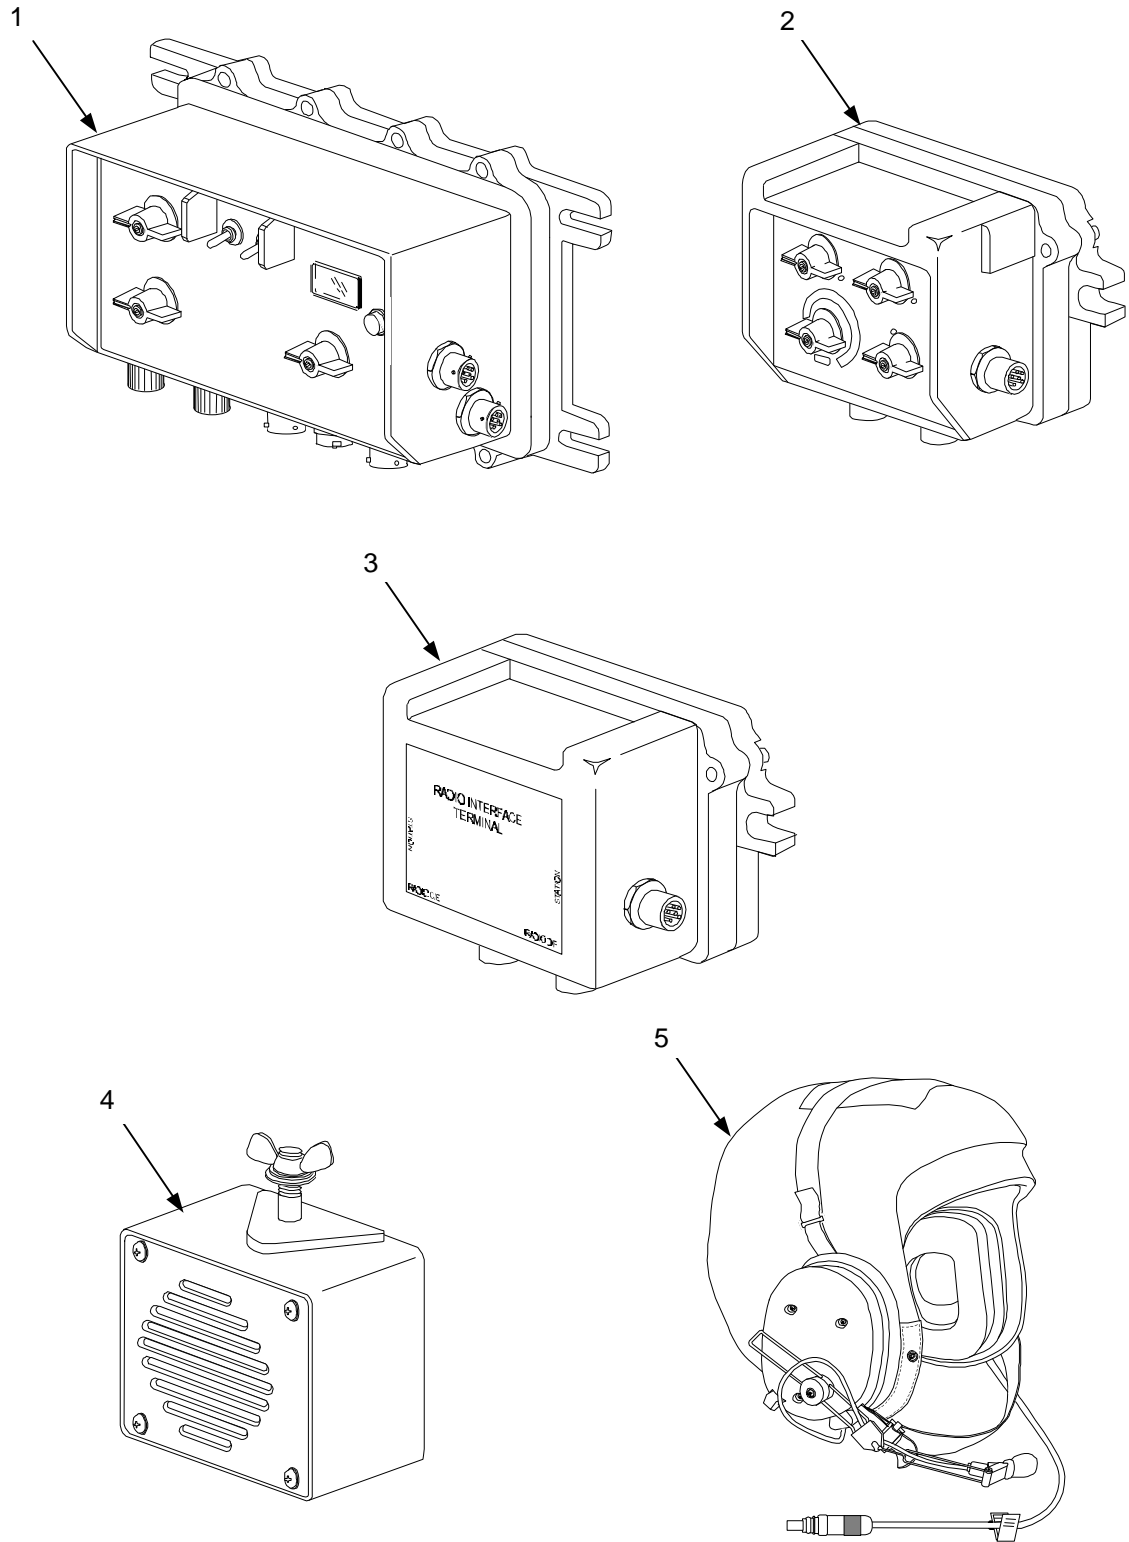

Figure 2-1. Illustrated Parts List
* See Figures 2-1 and 2-2 for illustration of the referenced part(s).